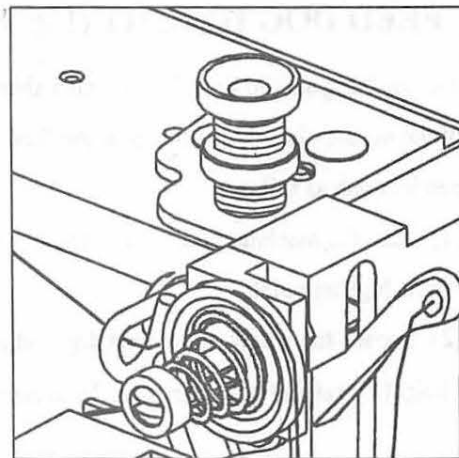

Fig.6
10. ADJUSTMENT OF PRESSER PRESSURE (Fig.6)